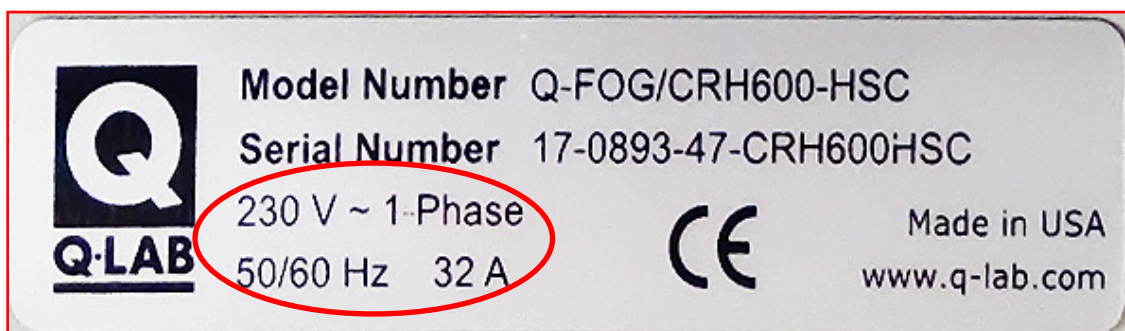

Figure 6.4b: Q-FOG nameplate showing power requirements.
- The input voltage is shown on the nameplate attached to the rear of the chamber, Figure 6.4b.